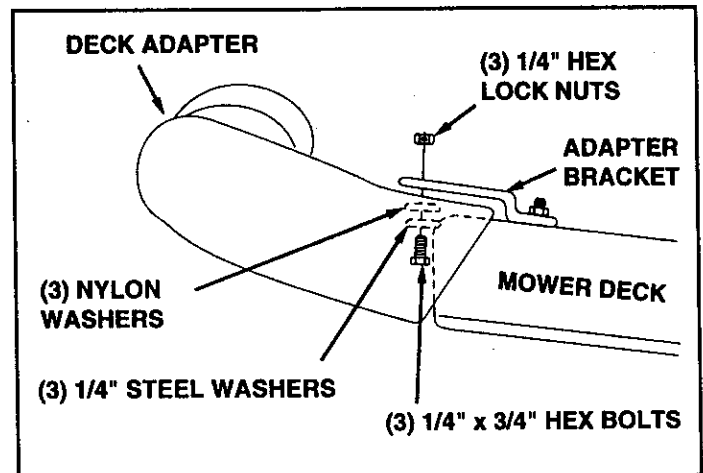

FIGURE 33
- With deck adapter positioned correctly over the discharge opening, use the adapter bracket as a template and drill three 9/32" diameter holes in the top of the deck adapter. See figure 33.
- Bolt deck adapter to bracket using three 1/4" x 3/4" bolts, nylon washers, 1/4" flat washers and 1/4" hex lock nuts. Nylon washers should be against the inside of the deck adapter. See figure 33.